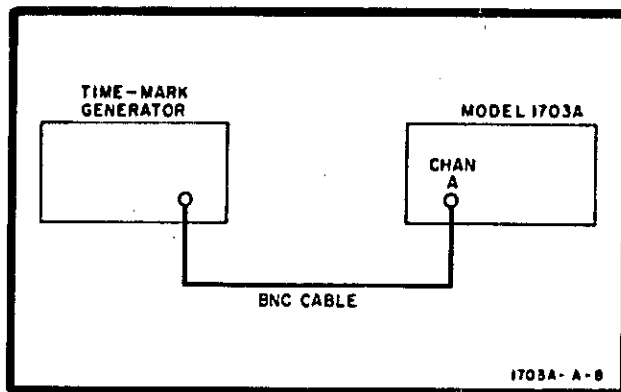

Figure 5-13. Delay Jitter Test Setup
- a. Connect instruments as shown in figure 5-13.